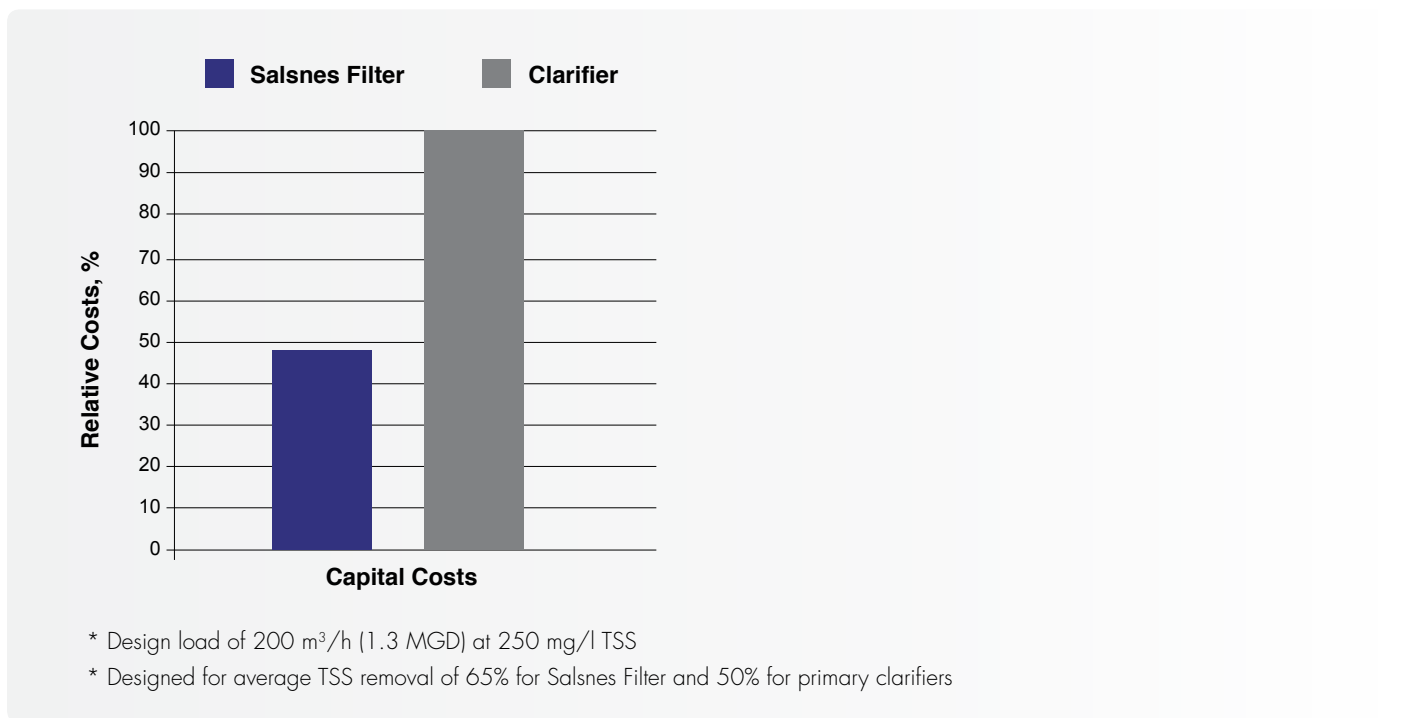

Figure 1. Cost Comparison
- 30–60% lower investment cost. See **Figure 1**.